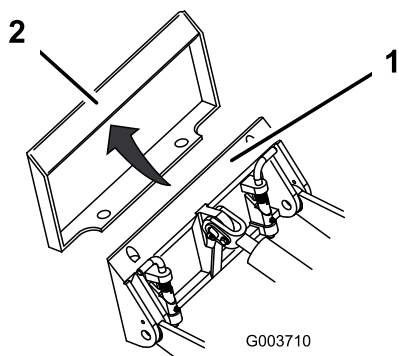

Figure 16
4. Position the mount plate into the upper lip of the attachment receiver plate (Figure 16).